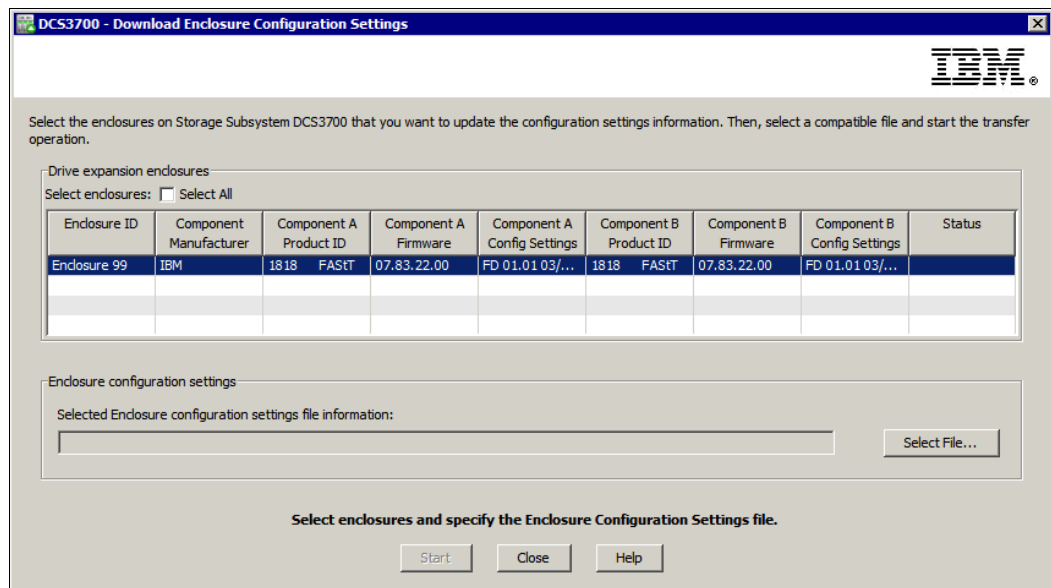

Figure 14-53 Download ESM card configuration
1. To download ESM configuration settings, select the **Enclosure Configuration Settings** option, as shown in Figure 14-31 on page 448. The window that is shown in Figure 14-53 opens.